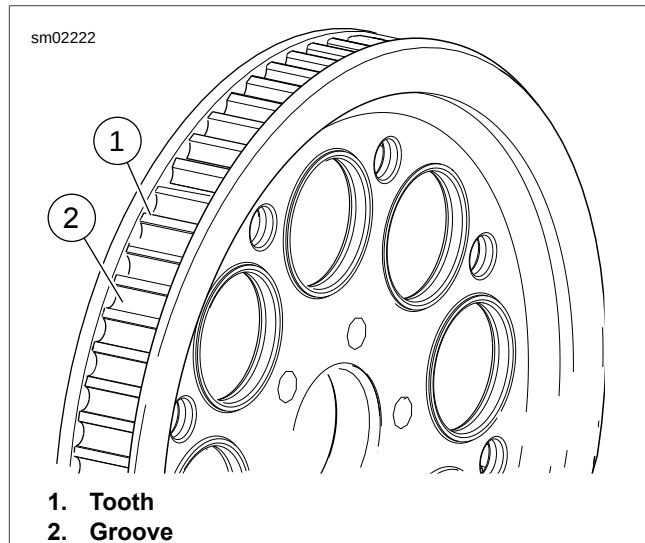

Figure 1-18. Rear Sprocket
1. See Figure 1-18. Inspect each tooth (1) of rear sprocket for:
2. To check if chrome plating has worn off, drag a scribe or sharp knife point across the bottom of a groove (2) (between two teeth) with medium pressure.